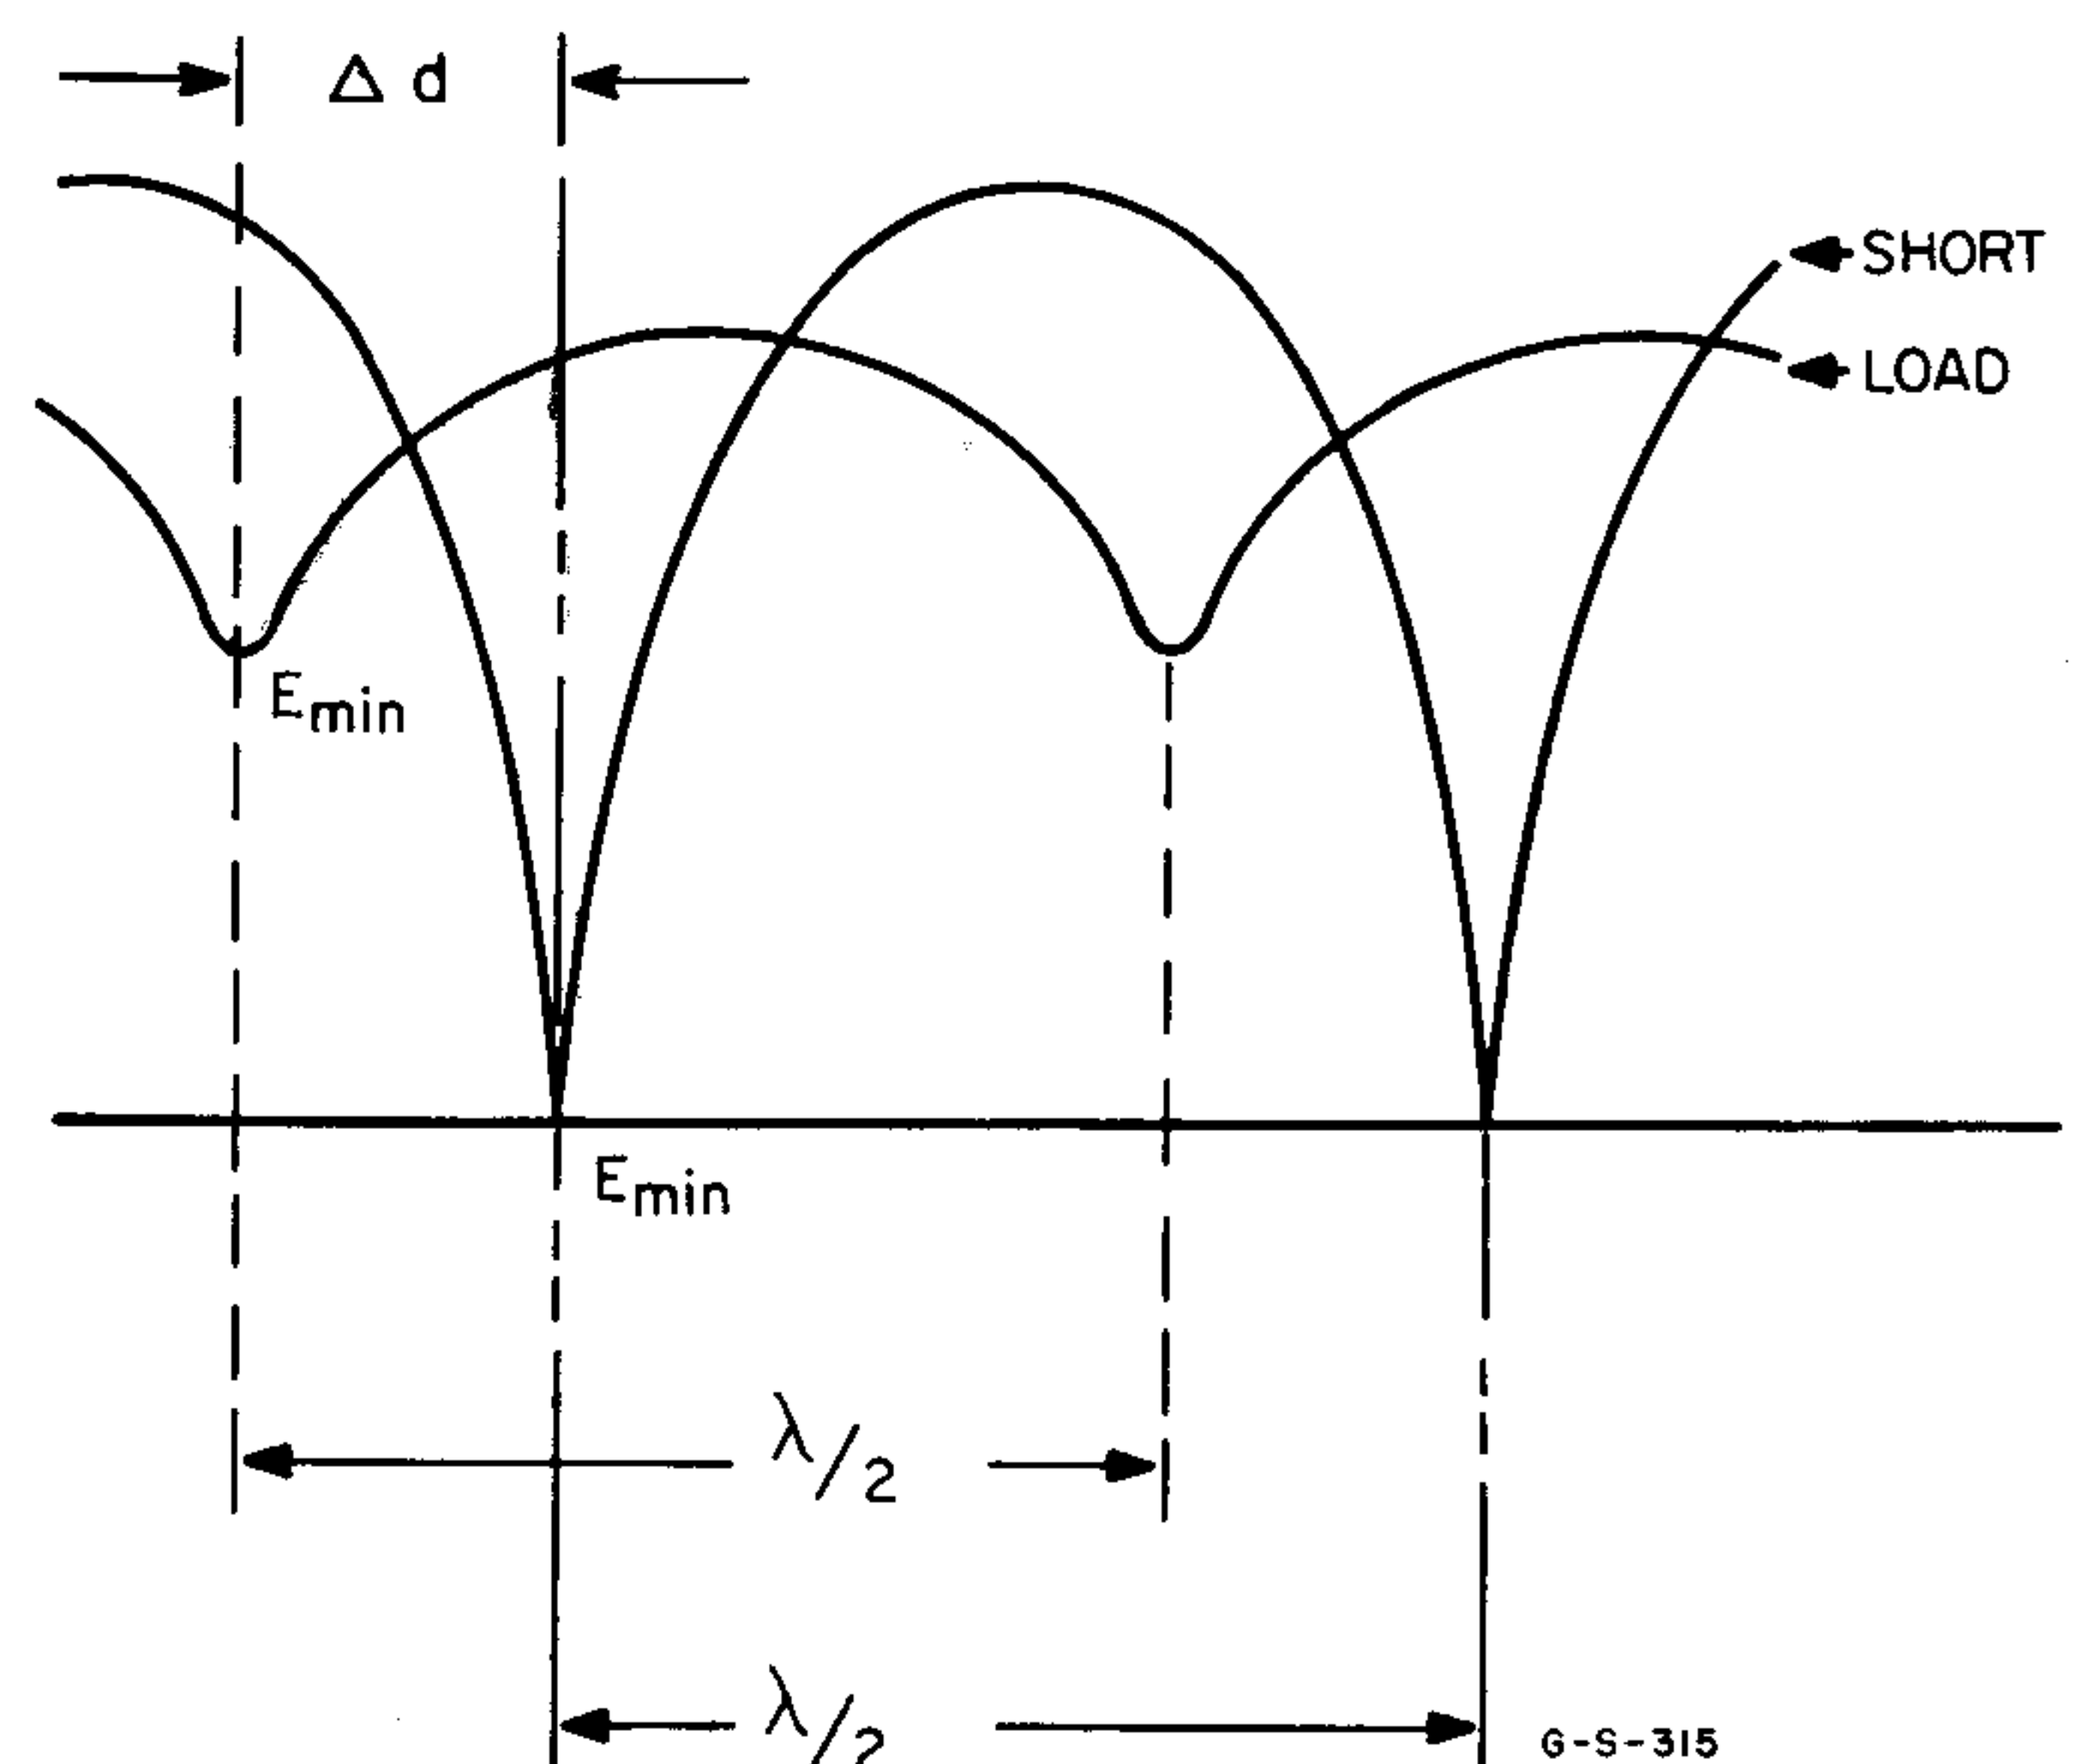

Figure 3-13. Shift of Minimum with Load and Short
d. Referring to figure 3-13 and the following formulas, compute the normalized load impedance: